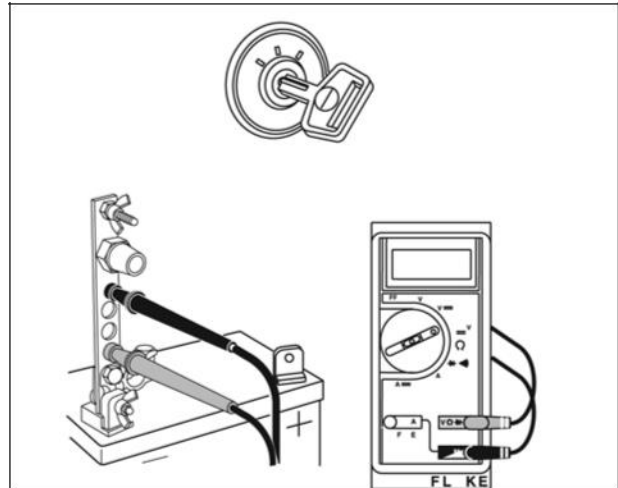

Figure 45
- One battery cable with alligator clips (A, Figure 45).
- A jumper wire (B).